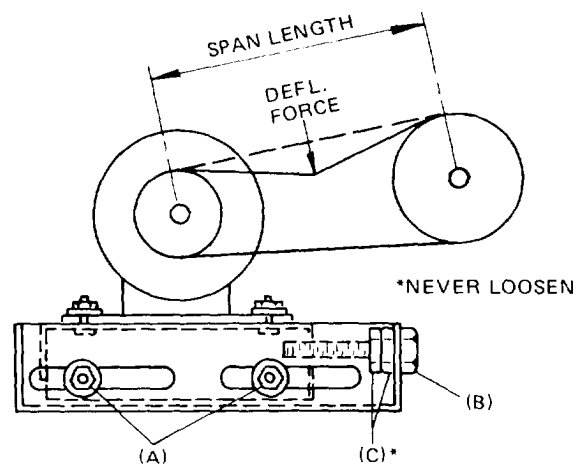

FIG. 15 – TYPICAL MOTOR MOUNTING ASSEMBLY
4. The tension on each belt shall be adjusted per the following procedure. See Figure 15.
- a. Loosen two nuts (A).
- b. Adjust by turning (B).
- c. Never loosen nuts (C).